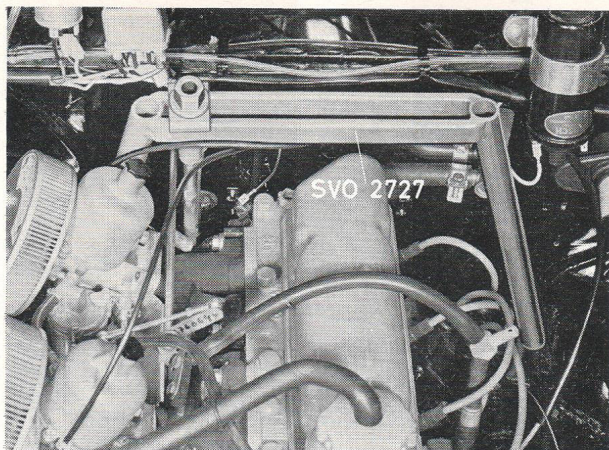

Fig. 22. Suspending the engine, 140
1. Fix tool SVO 2727 on the engine, see Fig. 22. Place the lifting hook round the exhaust pipe.